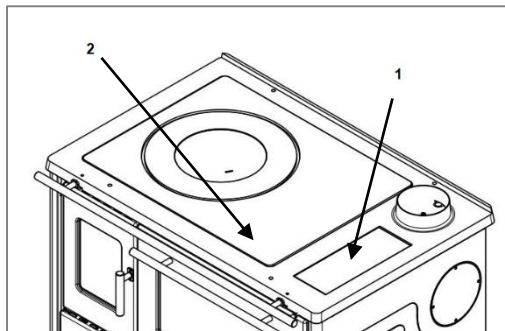

Figure 8
- Extract tops 1 and 2 (see figure 8).